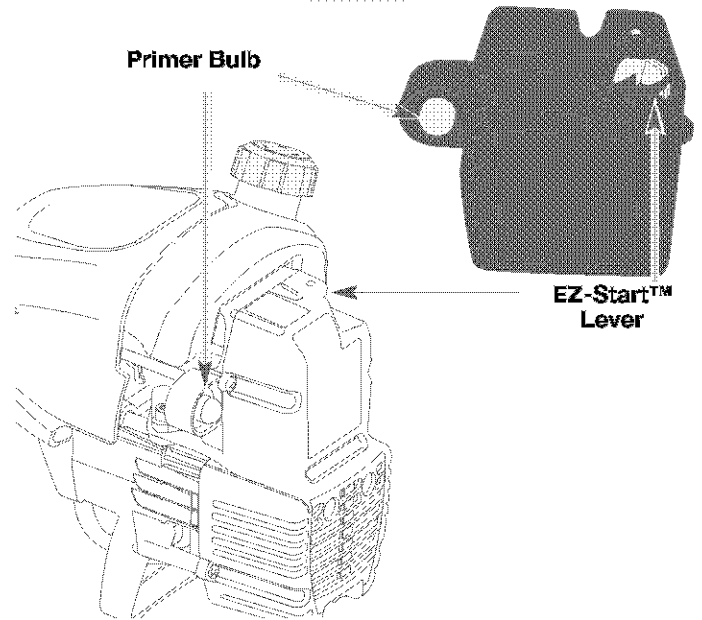

Fig. 4
3. Fully press and release primer bulb slowly 5 to 7 times. Fuel should be visible in the bulb (Fig. 4). If fuel is not visible, press three (3) more times, or until it is.
4. Push the EZ-Start™ Lever to the left until it clicks and locks into place. (Fig. 4).
6. Squeeze the throttle control to warm up engine for 5 to 10 seconds. Ez-Start™ Lever will click off automatically (Fig. 4).